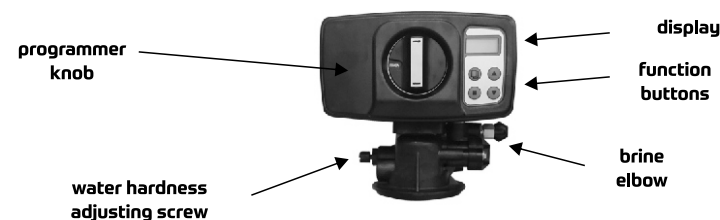

Fig. 6. BNT head
- After installing the device and performing the start-up procedures, check the hardness of the water and, if necessary, set its parameters to the desired values by turning the adjusting screw or a bypass valve (Fig. 6. BNT head).